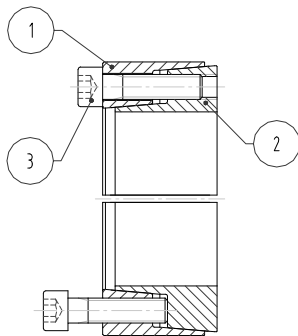

Fig. 1
(Refer to fig.1)
2. Loosen all screws by minimum 3 turns and transfer at least 2 screws to push-off threads in the collar item [1] in order to disengage tapers for easy installation of locking assembly (see fig. 1).